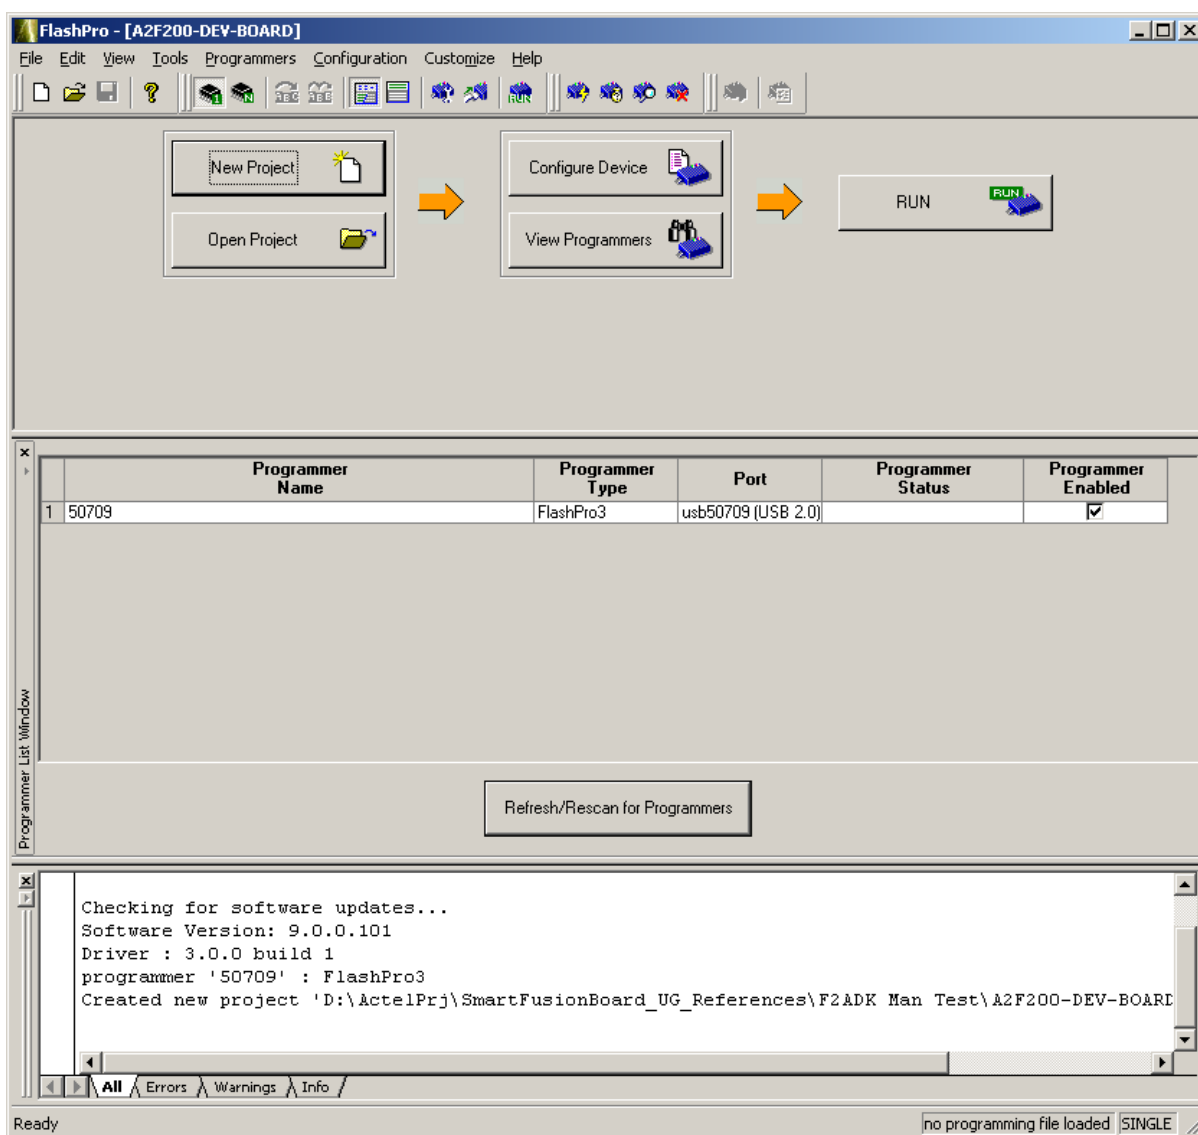

Figure 2 • FlashPro New Project Setup
1. Open the FlashPro programming software (Figure 2).